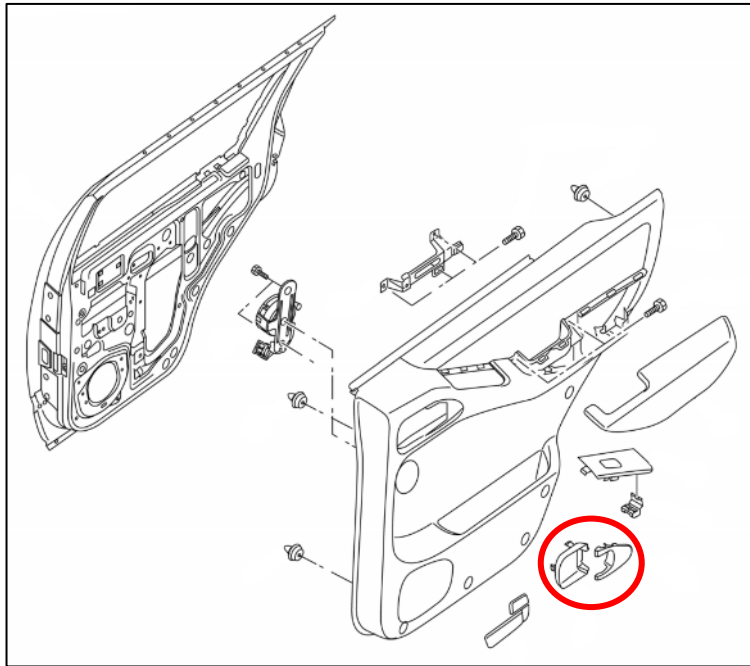

Figure 82
2. Remove the Trim Piece behind the Door Handle with a Trim Removal tool. *Figure 82.*